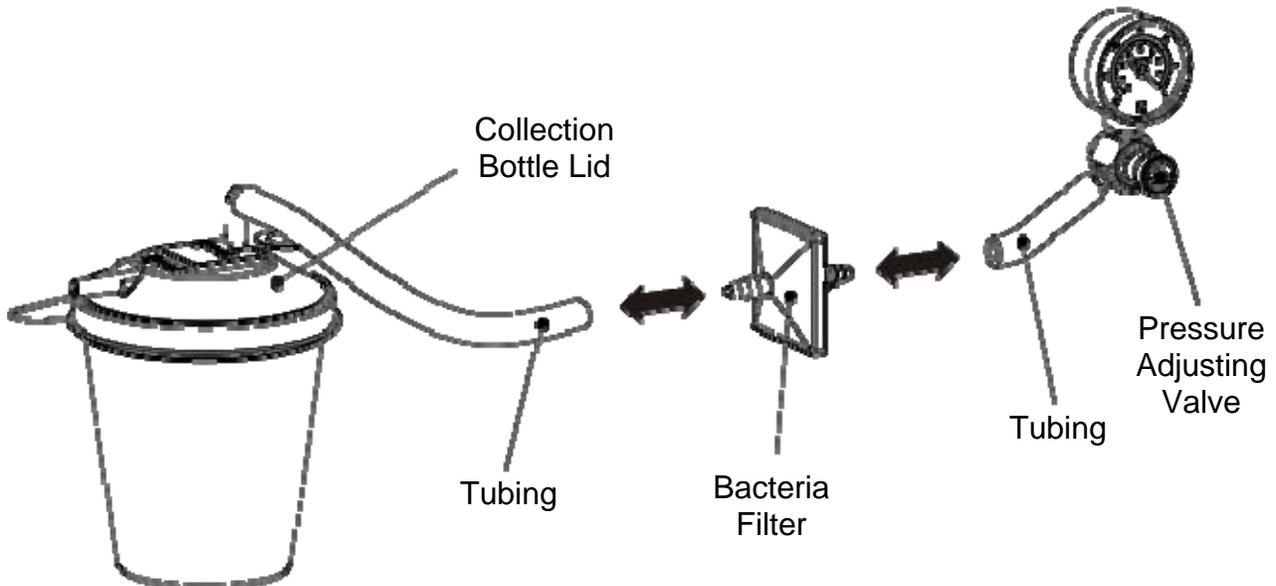

Figure 13
3. Replace with a new **VAC-ASSIST** bacteria filter and connect tubing per figure 13. Additional filters can be purchased from an authorized dealer.